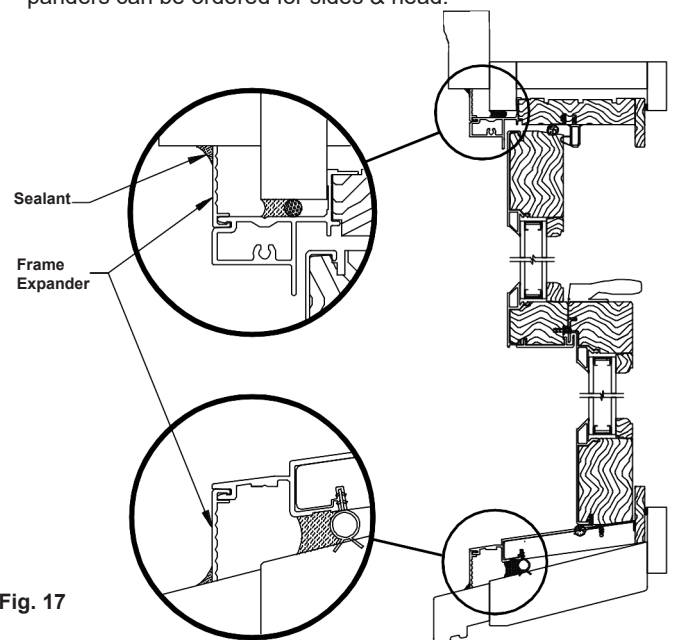

Fig. 17
14. If applying frame expander, do so at this time. The frame expander may need to be cut to the proper width to bridge the gap between the insert frame and existing window frame/casing. Notches on the back of the frame clad expander are spaced 1/8" apart for cutting reference. Once the frame clad expander is installed, seal the joint between the frame clad expander and existing frame. See Figure 17.